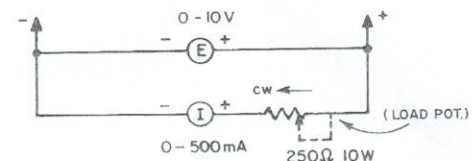

Figure 3.
- Load (See Fig. 3) Connect load fixture to J1 and J4 of 1940 (J1 is (-) side)
a. Connect the load fixture (Figure 3) to J1 (-) and J2. Adjust the load pot until the voltage reads 5.5 V. The current should read 250 – 275 mA. Adjust the load pot fully cw; the voltage should drop smoothly to 0 V and the current remain constant. Set the load pot fully ccw; the voltage should read 6.4 – 6.6 V.